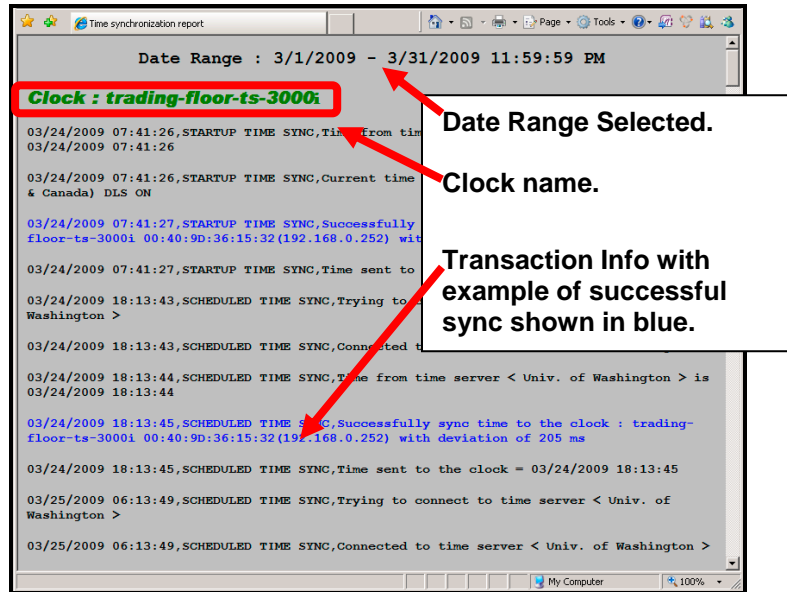

Figure 5-10. Example of Transaction Report Created with TS-3000i Utility.
- Create a centralized transaction report for multiple TS-3000i clocks using all the transaction data or a selected data range. For example, create an HTML formatted report of transactions for March 1, 2009 through March 31, 2009 (see *Figure 5-10*).